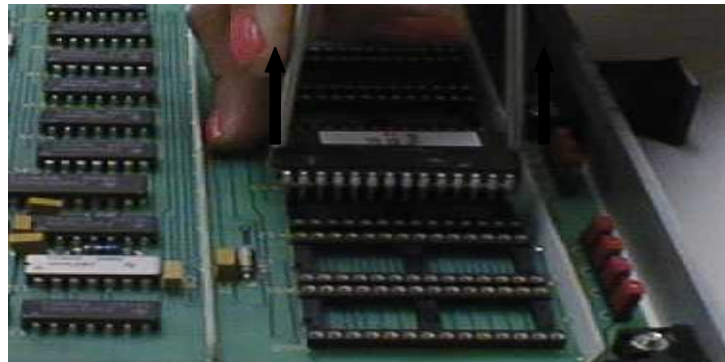

Fig.10 Removing the datachip EPROM
- (7) Pull the datachip EPROM even and carefully upwards out of socket (Fig.10). Little movements to each side might make it easier to pull the chip.